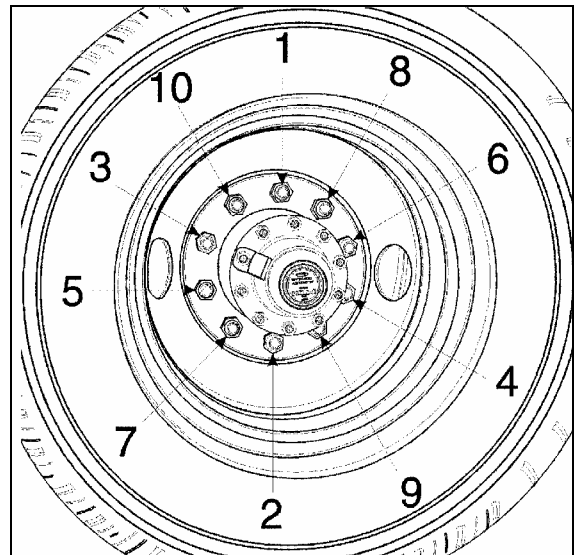

FIGURE 2: TIGHTENING SEQUENCE 13013
It is also important that wheel stud nuts be tightened alternately on opposite sides of the wheel. Refer to Figure 2 for the suggested tightening sequence.
Tighten stud nuts progressively as shown in Figure 2. The final tightening should be done with a torque wrench. Tighten stud nuts to 450 - 500 ft-lbf (610 - 680 Nm) for aluminum as well as steel wheels.
2. Screw in the hex stud nuts (refer to Figure 2 for sequence) so that wheel will position itself concentrically with hub. This is important, otherwise wheel may be eccentric with hub and will not run straight. In this initial step, slightly tighten the nuts to correctly position the wheel;